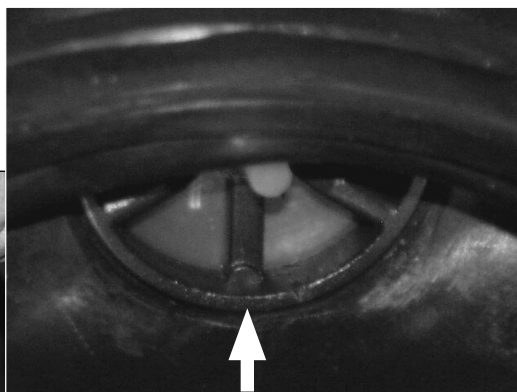

Figure 5a: Correct
5. Turn the assembly back over and work purge valve and body until firmly in place. Take notice that the purge valve and body are seated correctly. *See figure 5a and 5b.*